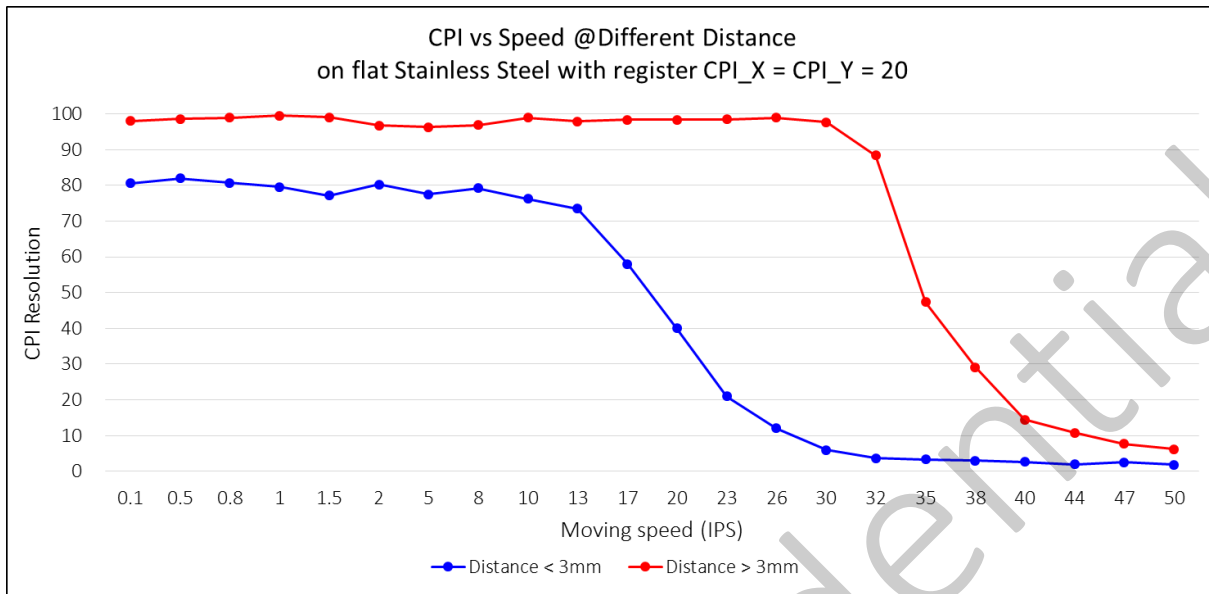

Figure 8. CPI vs Speed @Different Distance
- When the distance to tracking surface is < 3 mm, the reported CPI resolution could be lower than the CPI value at ≥ 3 mm. Please refer to Figure 8 below.